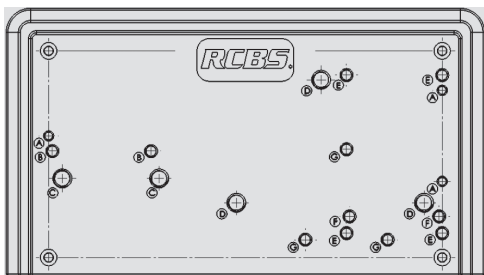

Fig. 3 **Accessory Base Plate-3 (RCBS Part# 9282)**
- b) to your bench using the RCBS Accessory Base Plate-3 (**Fig. 1, B**) (*not included, see **Fig. 3, pg. 7**)